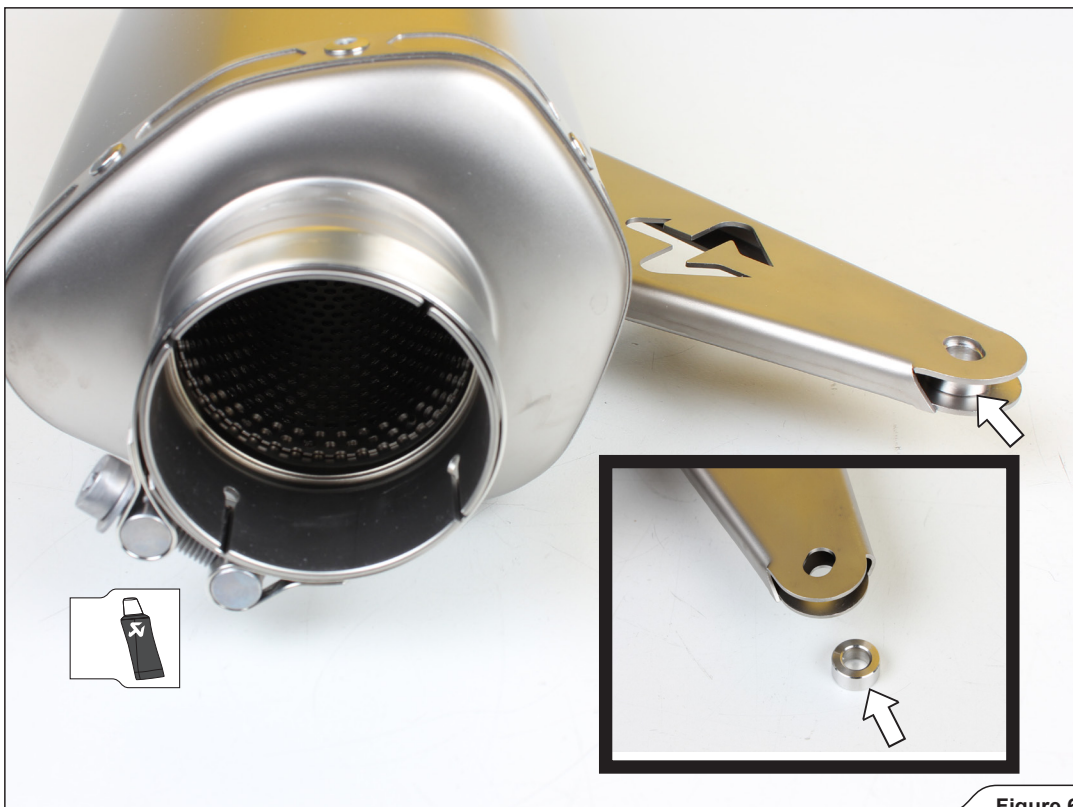

Figure 6
3. Assemble the clamp onto the muffler's inlet and distance washer into the bracket, as shown (Figure 6).